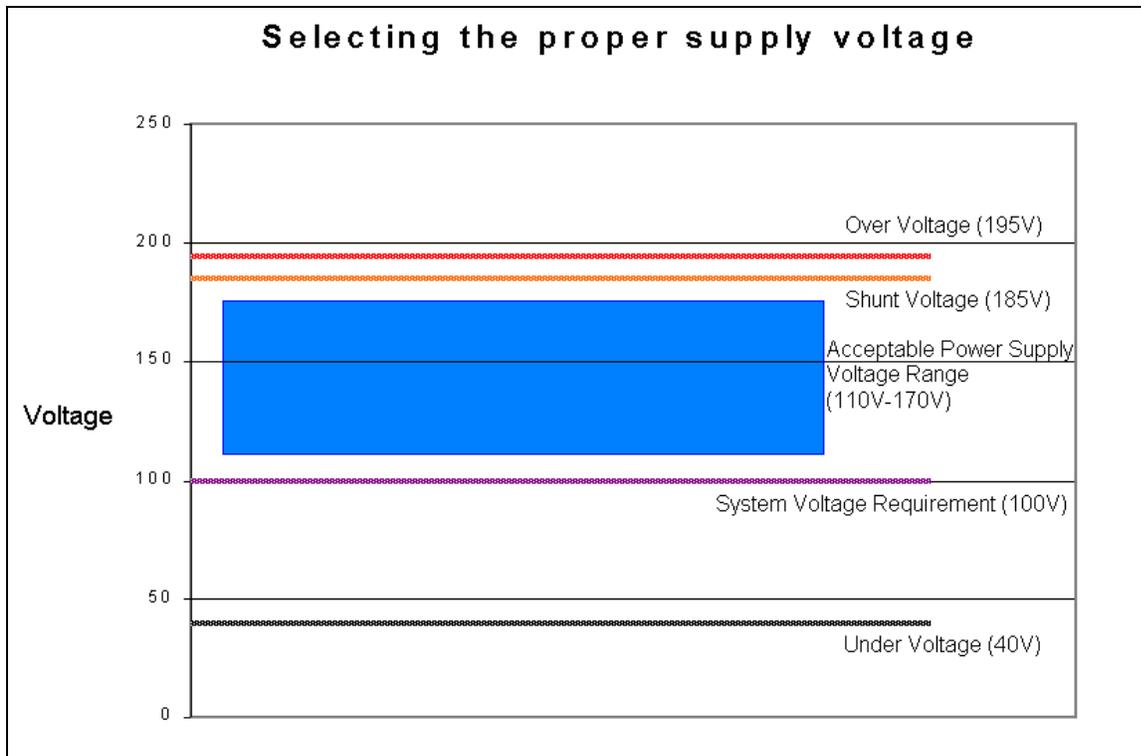

Figure 1.1. In this case the acceptable power supply voltage is between 110V and 170V.
**Over Voltage** – The over voltage level on Advanced Motion Controls amplifiers can be found in the amplifier data sheet. In the example from Figure 1.1. the data sheet for the B25A20 amplifier states that the over voltage shut down point is 195V.
**Shunt Regulator Voltage** – From figure 1.1 an SRST185 was chosen with a 185V shunt voltage. The purpose of a shunt regulator is to clamp the power supply voltage so it doesn't exceed the amplifier over voltage levels during regeneration. See section 3 (Regeneration) to determine if a shunt regulator is required and how to select the correct voltage.
**Under Voltage Limit** – The under voltage level on Advanced Motion Controls amplifiers can be found in the amplifier data sheet. In the example from Figure 1.1. the data sheet for the B25A20 amplifier states that the under voltage shut down point is 40V.